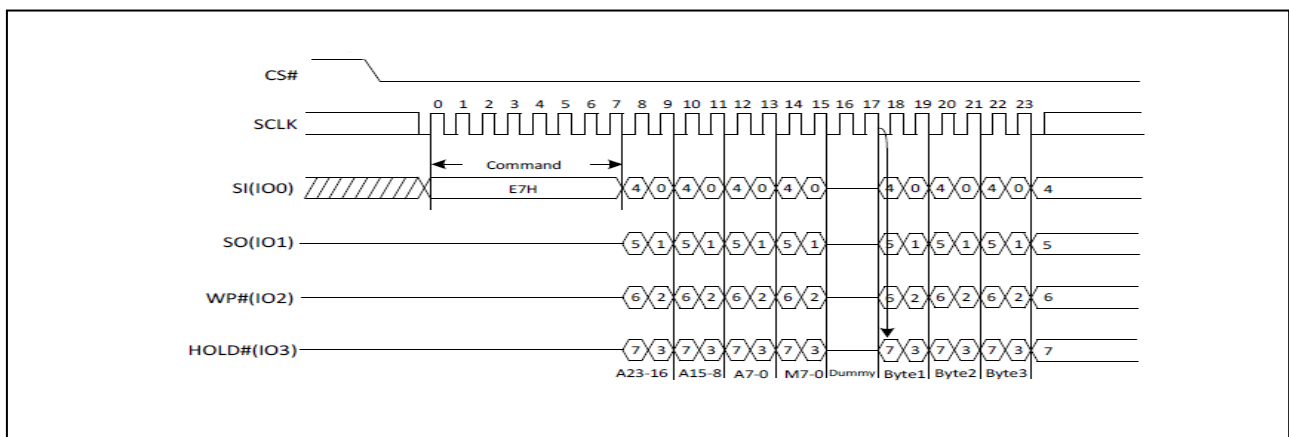

Figure12.Quad I/O Word Fast Read Sequence Diagram (M5-4#(1, 0))
The Quad I/O Word Fast Read command is similar to the Quad I/O Fast Read command except that the lowest address bit (A0) must equal 0 and only 2-dummy clock. The command sequence is shown in followed Figure 12. The first byte addressed can be at any location. The address is automatically incremented to the next higher address after each byte of data is shifted out. The Quad Enable bit (QE) of Status Register (S9) must be set to enable for the Quad I/O Word Fast read command.